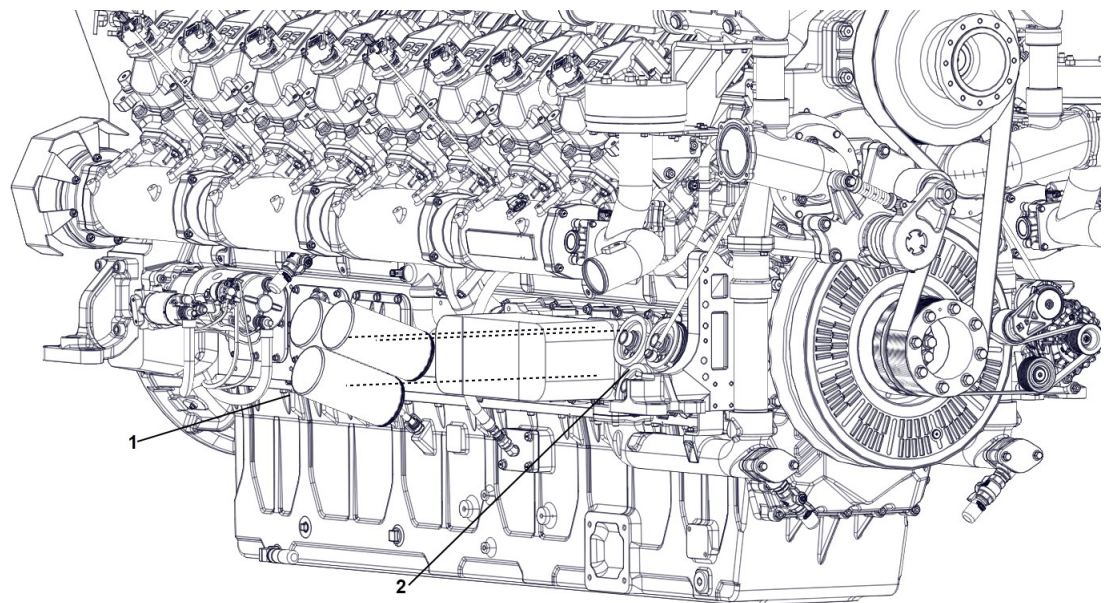

Figure 167. Engine Oil Filter Assembly
- 1. Separate the oil filters (Figure 167, Item 1) from the oil filter seat (Figure 167, Item 2).